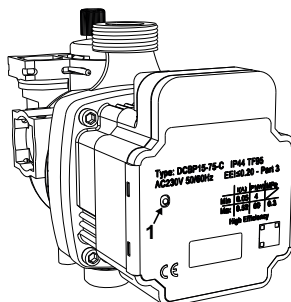

fig. 17
An LED (ref. 1 - fig. 17) indicates the circulator's operating mode. In the event of a malfunction, this LED provides a diagnostic of the possible cause based on the pattern of flashing.